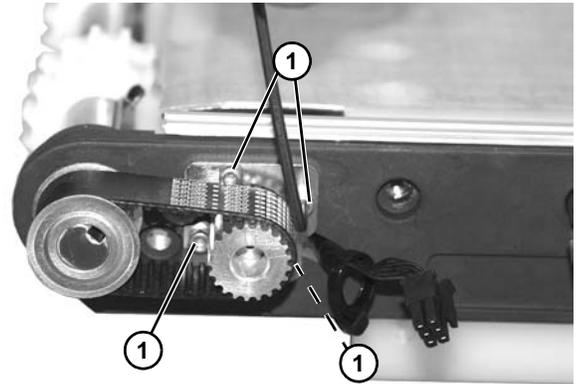

Figure 62
5. Loosen four clamp plate screws (Figure 62, item 1).